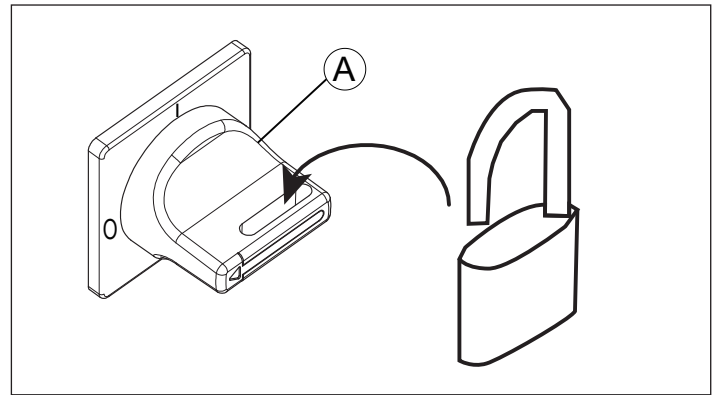

Fig. 1.11.1
-Switch off the power by turning the main switch to zero, turn grip (L fig.1.11.1) and padlock it, indicate that with a sign.